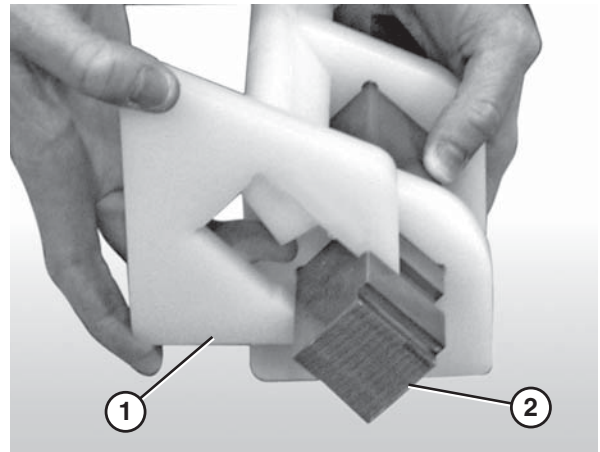

Figure 66
3. Attach the nose bar tracking pucks (Figure 66, item 1) to the nose bar drive post (Figure 66, item 2).